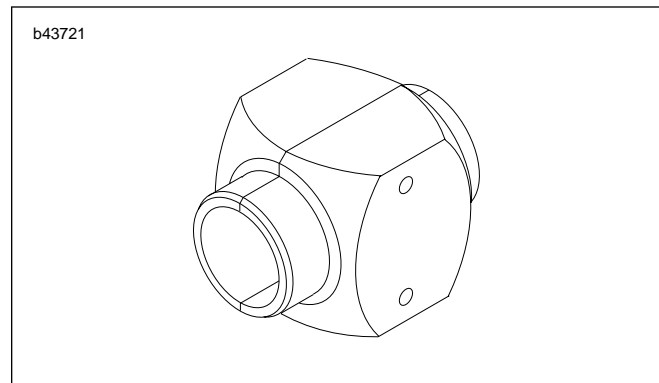

Figure 2-75. Fork Seal Driver (B-42571) 43mm
7. See Figure 2-72. Drive the guide bushing (22) with the seal spacer (23) and oil seal (24) into position in the outer tube using a FORK SEAL DRIVER (Part No. B-42571/43mm). See Figure 2-75.
8. Install the oil seal stopper ring (25) and a **new** dust seal (26).